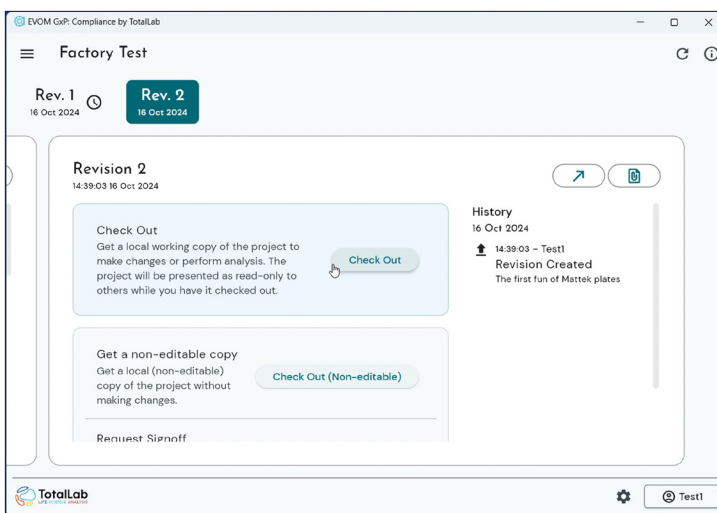

Fig. 20—The EVOM™ GxP Client Project window shows the selected revision at the top.
6. Click on a project to select it. To create a new project you may click on one of the folder icons   in the upper right corner. See “Creating a Project File” on page 32. The Project window appears (Fig. 20). The different versions of the project are displayed on the top.